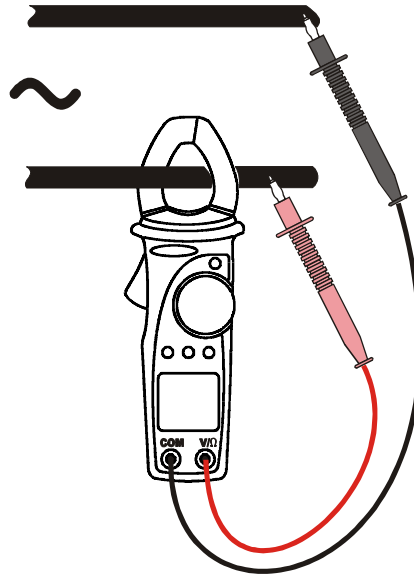

Fig. 12: power and energy measurement on single phase systems
2. Open the jaws and clamp only one cable. Pay attention to the alignment marks (see paragraph 4.1.2. and Fig. 12).
4. Connect the test leads to the circuit under test (see Fig. 12). The measured active power value and the symbol “**AC**” are displayed.